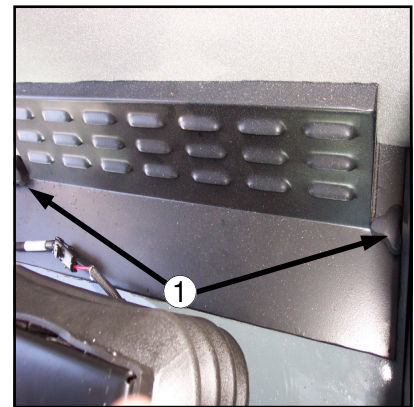

FIG 7.13-2
To remove, clean, or replace the filters in the cab, undo the thumb screws on the cover (figure 7.13-2, item 1) and carefully remove the filters. Wipe the cover clean with a damp cloth and allow to dry before replacing.
Figure 7.13-2 shows the air tube that allows fresh air into the cab. Check it often for any material blocking the opening.